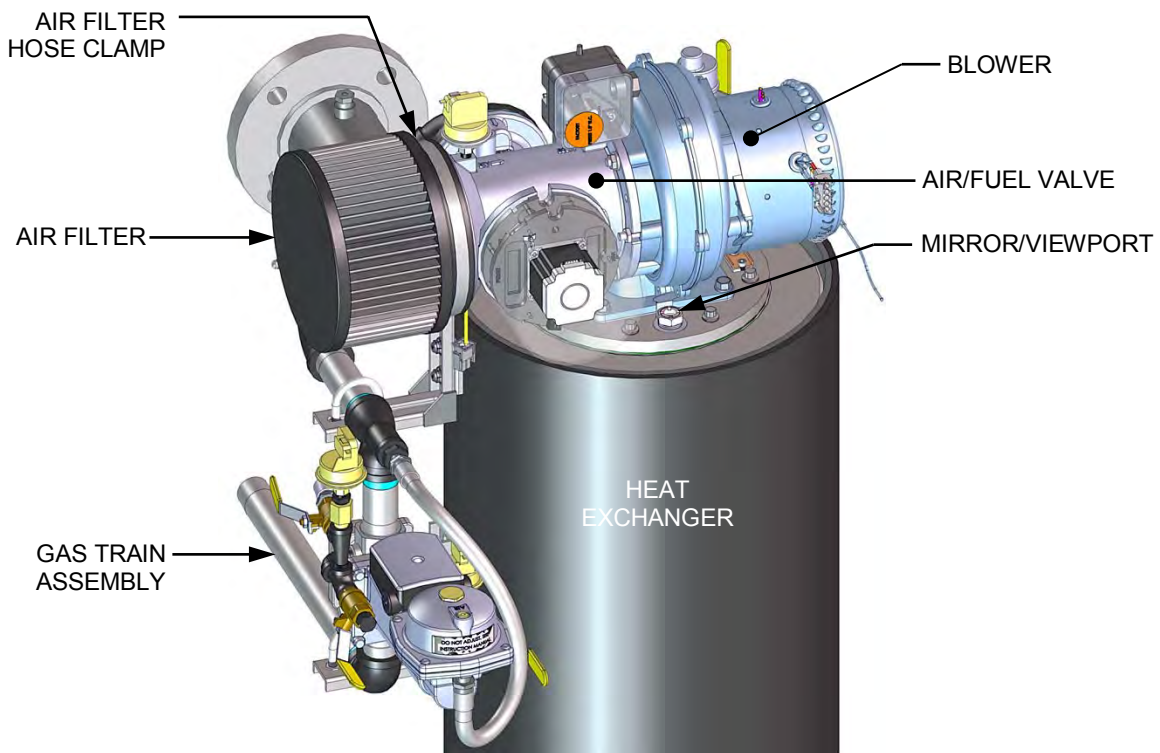

Figure 7-7: Air Filter Replacement
2. Remove the top shroud from the unit by grasping the top handle and lifting straight up. This will disengage the shroud from the four (4) pins in the side panels.
3. Refer to Figure 7-7 and locate the air filter attached to the air/fuel valve inlet.